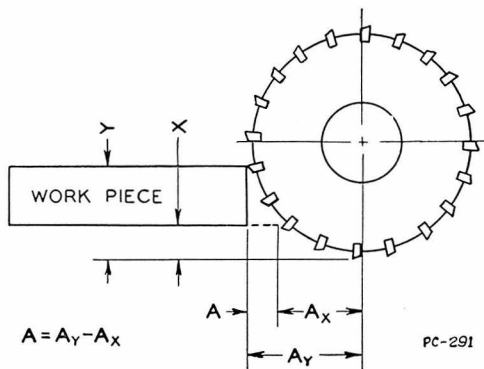

Figure 84
**Example:** If we have a part which requires a cut with an end mill or a face mill, and the center-line of the work does not coincide with the center of the cutter, Figure 84, the approach cannot be read directly from the table. Assuming an extreme condition, suppose we have an 8" diameter face mill taking a  $2\frac{1}{2}$ " width of cut, and that one edge of the work is  $1\frac{1}{2}$ " from the periphery of the cutter (dimension "X" in Figure 84), while the opposite edge is 4" from the periphery (dimension "Y" =  $1\frac{1}{2}$ " +  $2\frac{1}{2}$ "). Then the approach of the cutter is the difference between the approach for a 4" depth of cut and a  $1\frac{1}{2}$ " depth of cut. In the table entitled "Approach of Cutter for Spiral Mills, Keyway Cutters, Saws, etc.", the approach for an 8" cutter at a 4" depth is 4", while at a  $1\frac{1}{2}$ " depth, it is 3.12". The difference between 4" and 3.12" equals .88", the correct approach in this particular case.